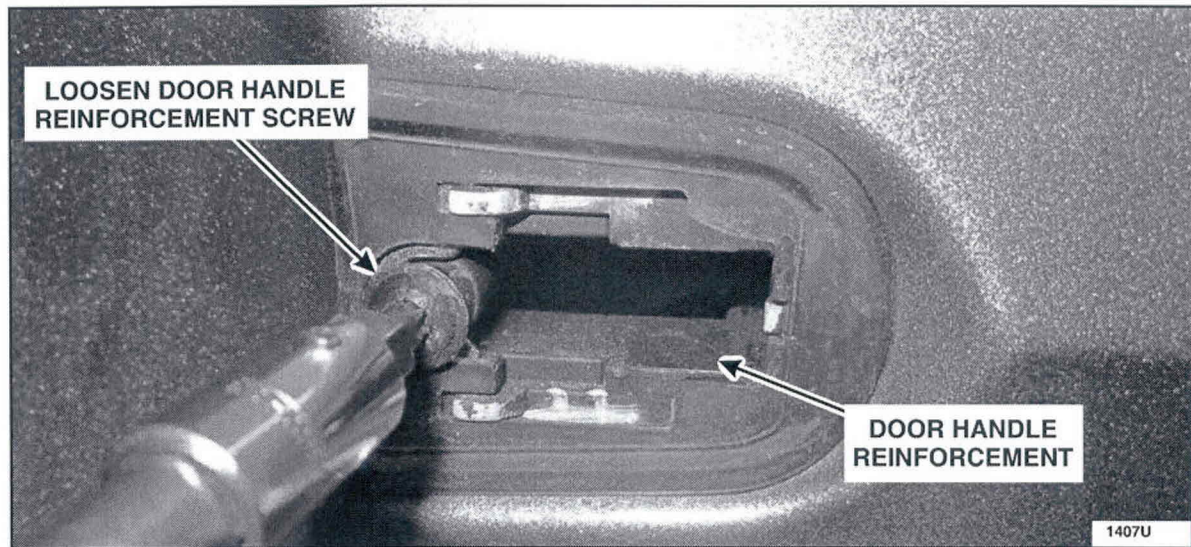

FIGURE 8
4. Loosen the door handle reinforcement front screw. See Figure 8.